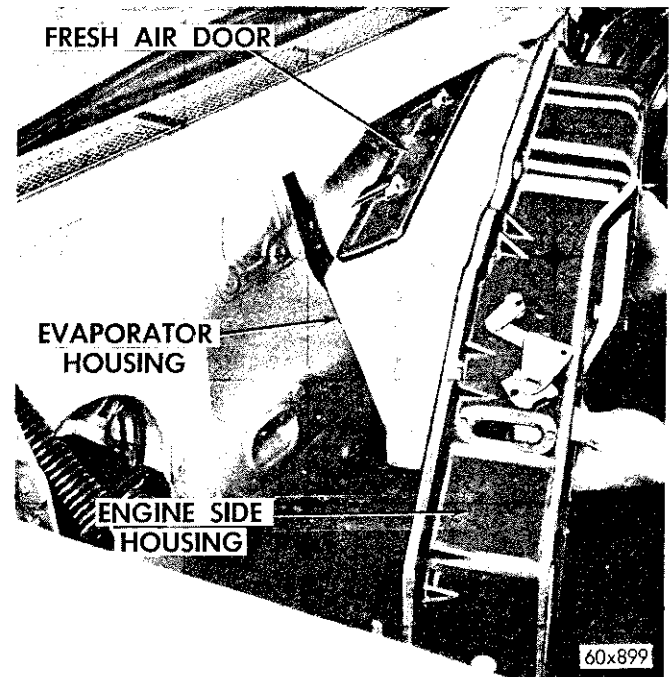

Fig. 65—Evaporator Removal or Installation
The evaporator assembly includes the evaporator core, the cast evaporator housing with fresh-air and recirculating doors, and the evaporator engine-side housing with the heater by-pass door. These sub-assemblies are built up before installation on the car to form a complete unitized evaporator assembly. The unitized evaporator assembly must be removed and installed as a complete assembly. (Refer to Fig. 65.)
(1) Close the fresh-air door and install the evaporator assembly as shown in Figure 65. Make sure rear edge of rain shield is folded upward.
(2) Install all evaporator assembly attaching screws, and tighten lightly. After all screws are installed, tighten alternately until all are tight. Alternate tightening of the screws will prevent distortion or damage to the assembly.
(3) Install the heater core and cover. Install the temperature control valve sensing bulb in the engine-side housing. Connect the heater hoses.
(4) Reconnect the by-pass door and recirculating door vacuum actuators.